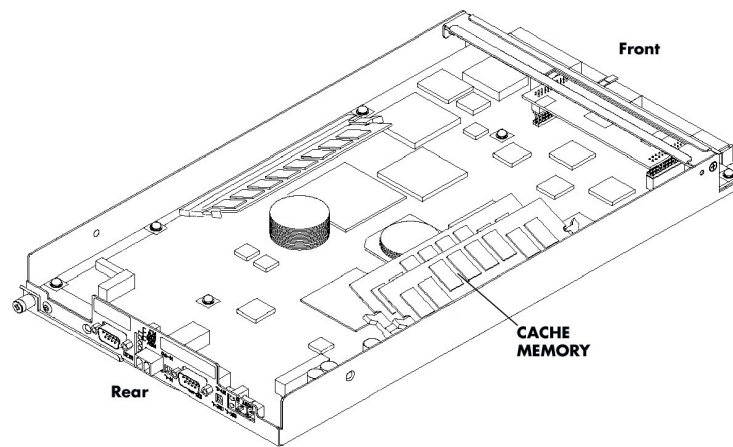

Figure 3-7. Controller Cache Memory Location
- Remove the cache memory stick(s) from the controller. The cache memory will be used in the replacement controller. See Figure 3-7.
9. Install the cache memory sticks removed in Step 8 into the replacement controller. See Figure 3-7.